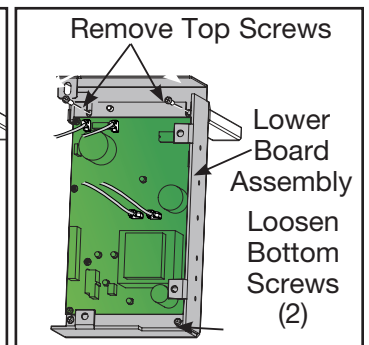

Figure 10
- C. Using a Phillips screwdriver, loosen or remove the top two screws from the lower board assembly and loosen the bottom two screws. See Figure 10.